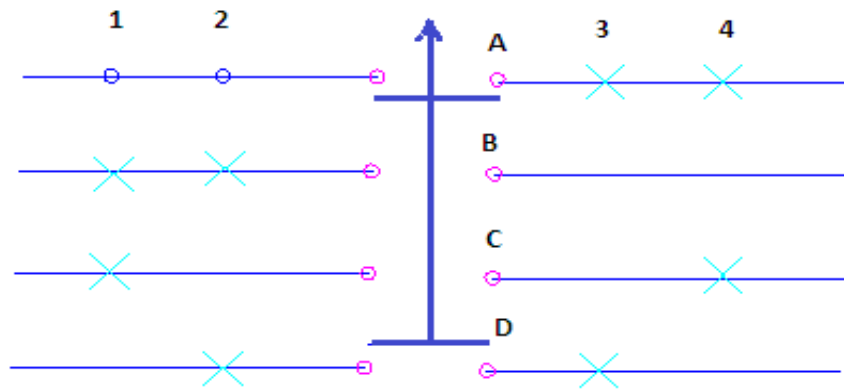

Fig.5.9 Symbolic representation of four position selector switch
- Figure 5.9 shows a four position selector switch. Note the use of x under the position number. This indicates that the contact in line with x is closed in that position.